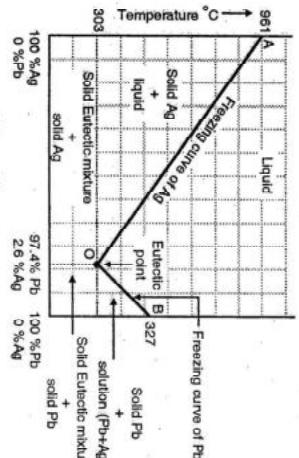

Fig. 5.5.1 : The phase diagram of Pb-Ag system
Since the pressure has nearly no effect on equilibrium so the system can be conveniently represented by a *temperature-concentration diagram* (see Fig. 5.5.1), at a constant and one variable pressure which is neglected, the condensed form of the phase rule :
- The complete Temperature - Concentration ( $T$ - $C$  Phase) phase diagram of the system Silver - Lead (Ag - Pb) is shown in Fig. 5.5.1.
In the phase diagram shown in Fig. 5.5.1 of Pb-Ag system, following salient features are observed.